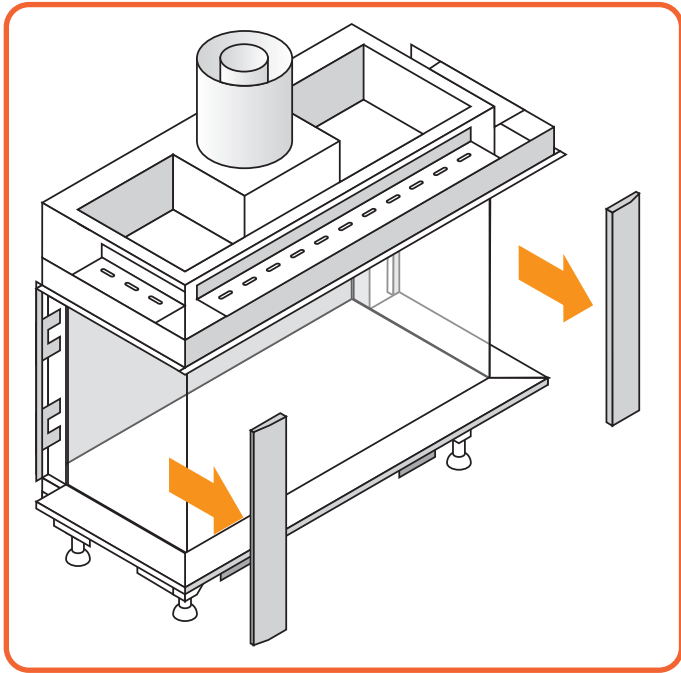

Figure 9.2 | Remove side trims
- Remove both the side trims and bottom trim. They are held by magnet snappers, Figure 9.2.